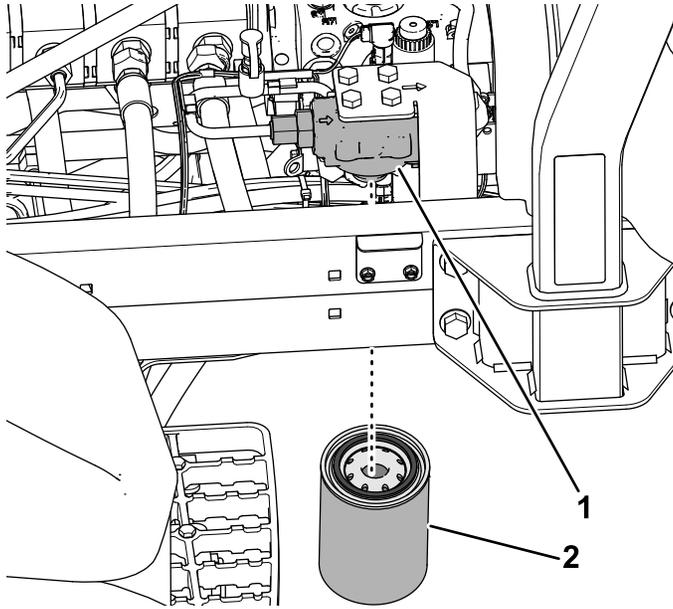

Figure 149
3. At the left side of the machine, align a drain pan under the charge filter (Figure 149).